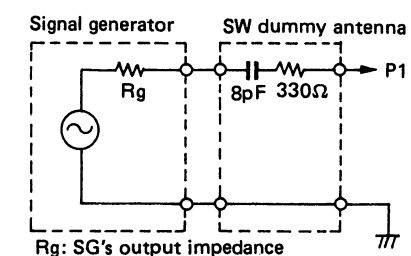

Fig. 5
- Transmit to the dummy antenna in Figure 5 and connect to P1.